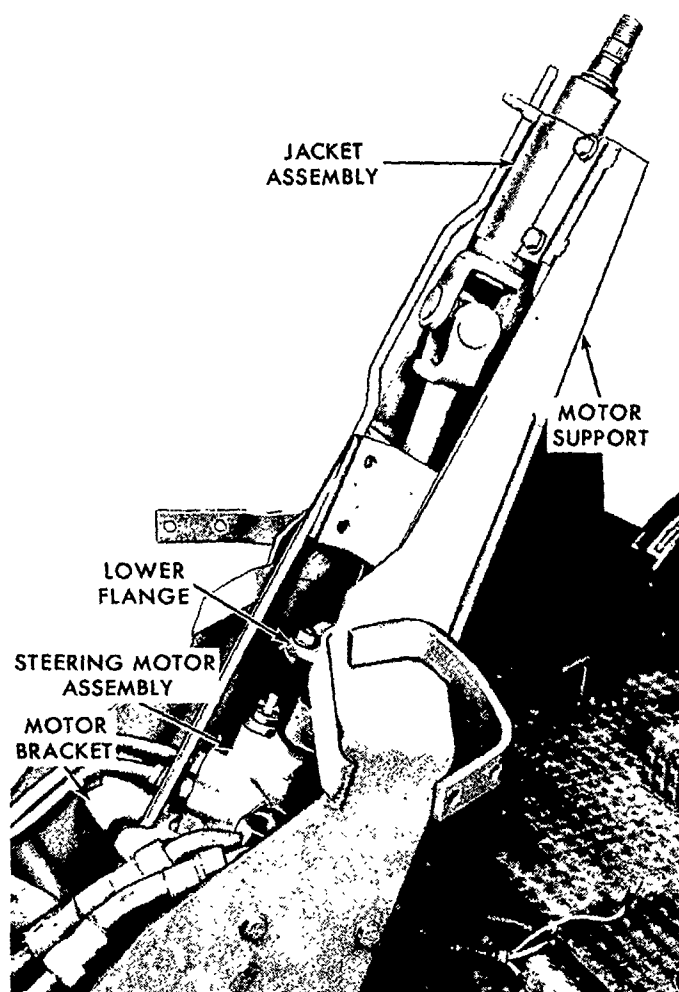

Figure 82
7. Remove the four bolts and flat washers and separate the steering column jacket assembly, Figure 82, from the motor support.
1. Position the steering motor assembly, Figure 82, against the motor bracket and install the three bolts and lock washers. Tighten the bolts to a torque of 23-30 lbs. ft. (3.18-4.14 kgm).